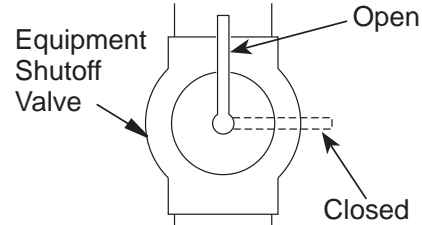

Figure 15 - Equipment Shutoff Valve
1. Close equipment shutoff valve (see *Figure 15*).
1. Open equipment shutoff valve (see **Figure 15, Page 16**).